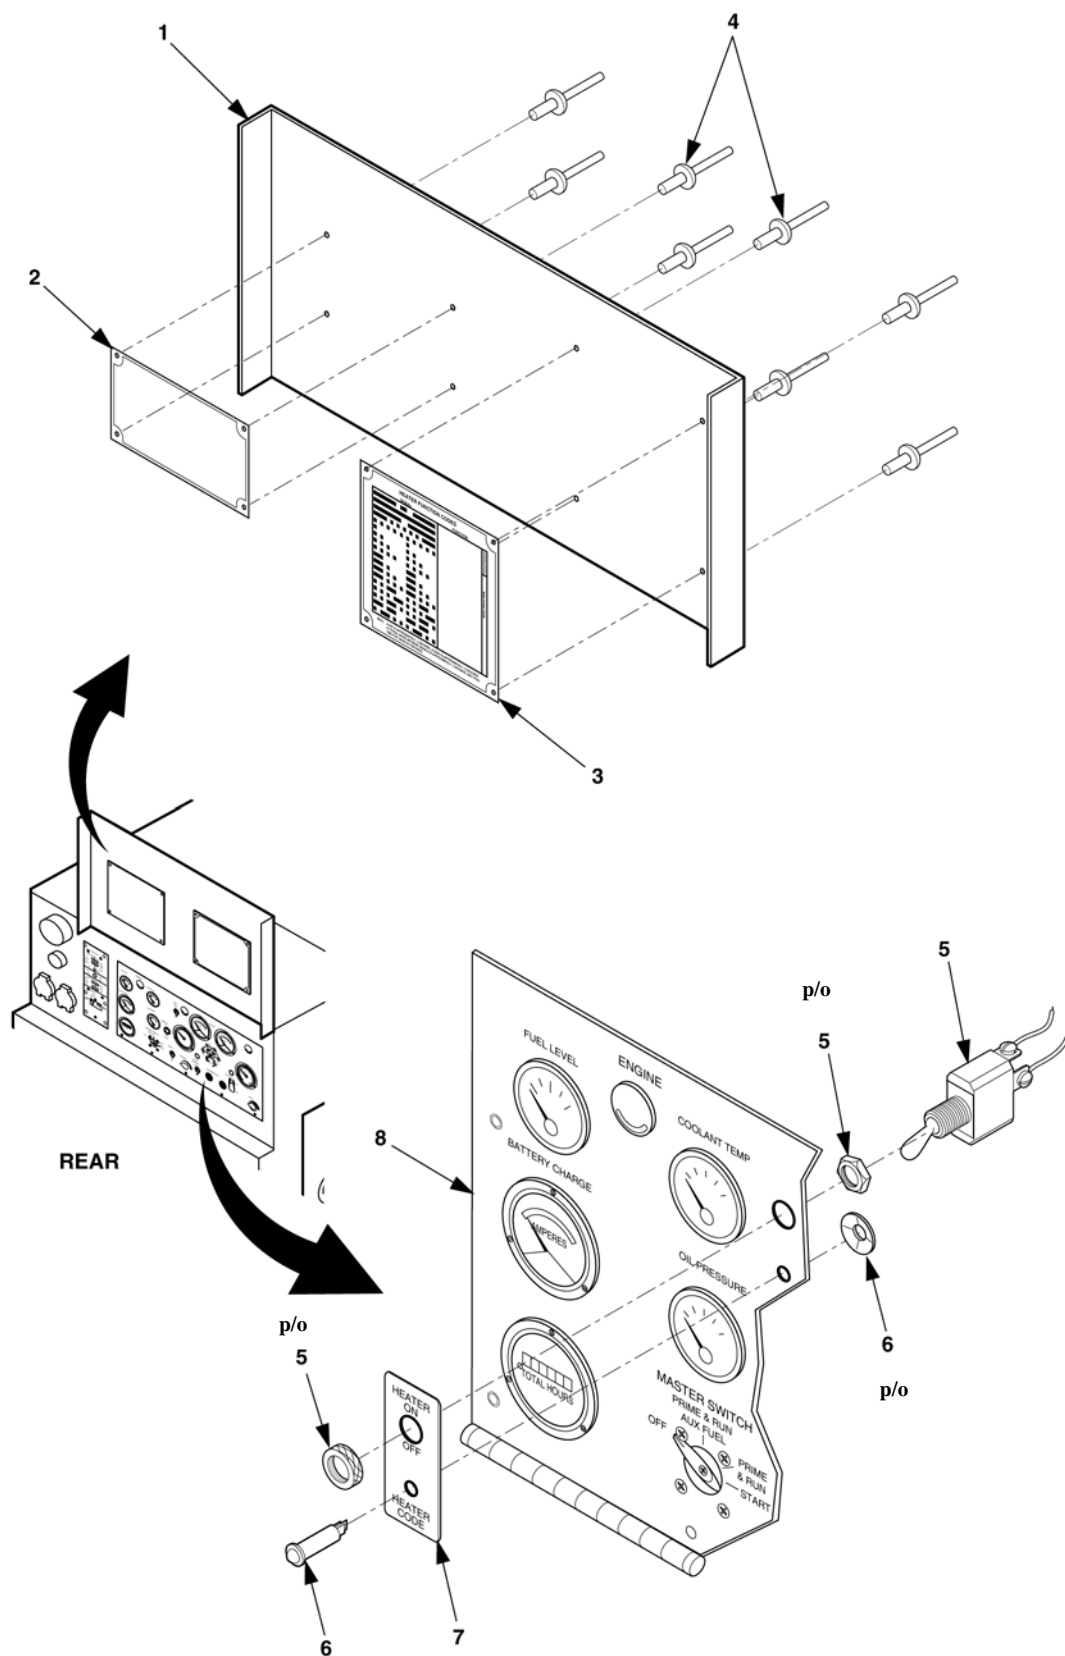

Figure 4-33. Cover and Instrument Panel.
- 5. Open control panel access door (1), Figure 4-33.
10. Remove toggle switch (5), indicator lamp (6), and heater switch label (7), Figure 4-33.